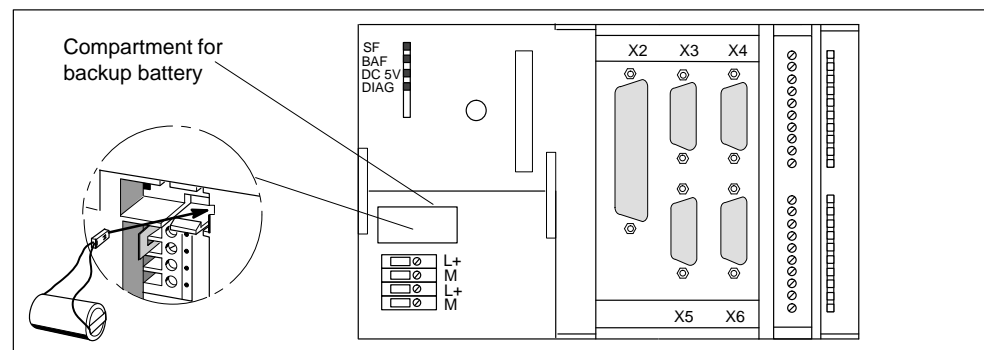

Figure 4-13 Installing the backup battery
4. Place the battery in the compartment and close the front door (see Figure 4-13).